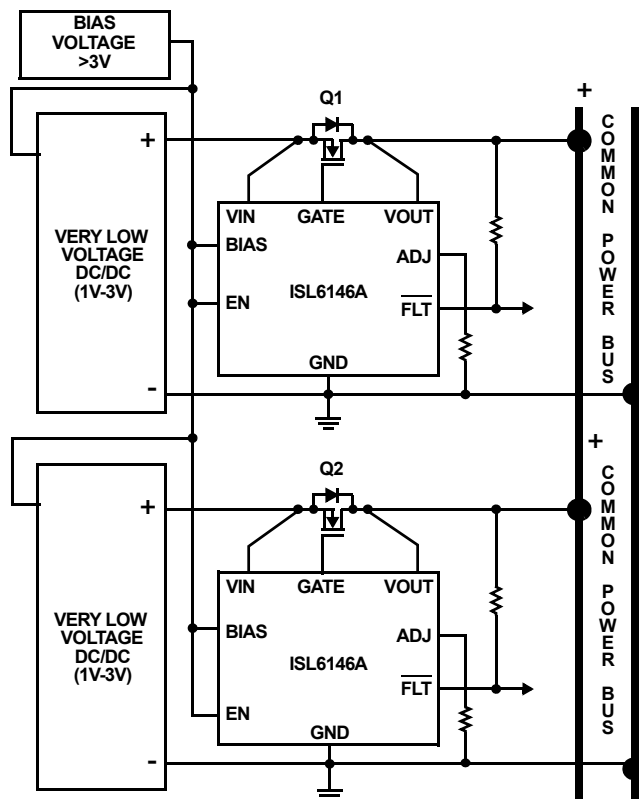

FIGURE 47. LOW VOLTAGE APPLICATION DIAGRAM
The ISL6146A application shown in Figure 47 is the configuration for OR-ing very low voltages of 1V to 3V. Additionally, this application shows the utilization of the ADJ input with a single resistor tied to GND. This provides the user a programmable level of $V_{OUT} > V_{IN}$ before the High Speed (HS) Comparator is activated and the GATE output is pulled down to allow for normal voltage fluctuations in the system.